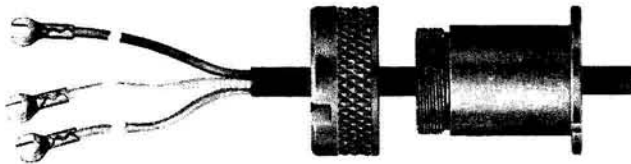

Fig. 4 — Sleeve Bushing on F6AR Handset
*Explosion-proof handsets, F6AR, F6BR, and F6CR handsets, are listed by the UNDERWRITERS LABORATORIES, INC. for use with telephone sets for hazardous locations. Handset cord is attached to telephone set by means of a bushing designed to confine any possible burning gases to interior of telephone set. (See Fig. 4 and 5.) The F6AR and F6CR handsets are not interchangeable with the F6BR. At least five threads of the threaded bushing must engage threads in housing. Each F6AR, F6BR, and F6CR handset with cord and bushing is a factory assembled unit. If any part except the transmitter and receiver cap requires replacement, **REPLACE ENTIRE HANDSET ASSEMBLY**. Review section on explosive atmospheres before doing any work involving these handsets.*